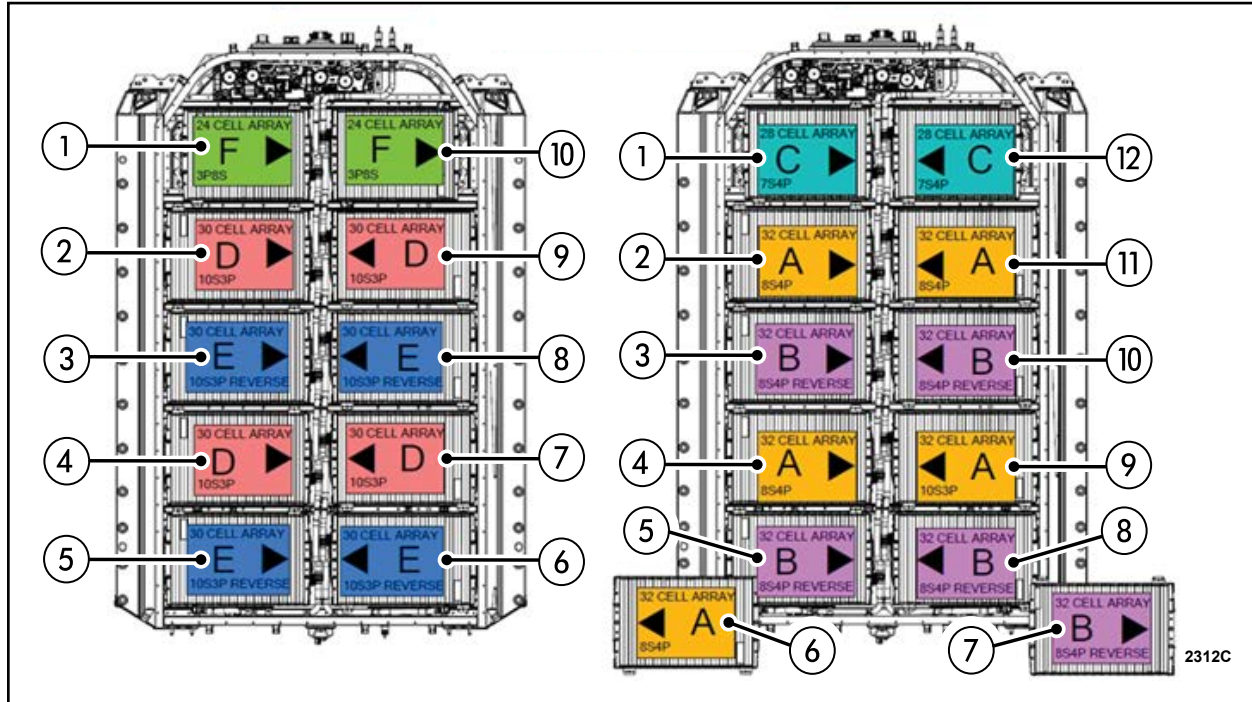

FIGURE 4
The vehicles included in this Field Service Action (FSA) have been identified as receiving a High Voltage Battery Module (HVBM) replacement using a service kit that included an incorrect Thermal Interface Material (TIM) template. For all vehicles included in this FSA, the type of HVBM that requires replacement is known and is listed in the supplied VIN tables. For the majority of vehicles, the HVBM numeric location is also known, and will be listed. For some vehicles, the HVBM numeric location is unknown. In these cases, the supplied serial numbers that the vehicle was built with will be listed in the tables and will be used to determine what HVBM requires replacement by process of elimination. All the serial numbers listed in these tables are factory installed HVBMs and DO NOT require replacement. The HVBM locations shown in Figure 4, on Page 5, correlate to the HVBM pairs that are listed in the VIN tables. Use the VIN tables and Figure 4 to determine what HVBM needs to be replaced.
NOTE: The HVBM's are replaced in pairs, so the HVBM's are listed as pairs in the VIN table that correlate to their locations in the HV battery shown in Figure 4.
NOTE: Figure 4 shows the HVBM configuration with lettered values that correlate directly to the HVBM's in the VIN tables. If the table lists FF, it is referencing the pair of HVBM's labeled F in Figure 4.
VINs in this table have the type of HVBM pair that is required and the numeric locations listed. Reference figure 4 to verify the location and type of HVBM that requires replacement.
- Referencing Figure 4, locate the serial numbers on the installed HVBMs in the HV battery and compare them with the serial numbers listed in the VIN Table.
- Referencing Figures 4 and 5, locate the Julian dates on the installed HVBM and compare them with the other HVBM Julian dates to verify what pair is the outlier. If the table states UNKNOWN, then all the HVBM Julian dates will need to be inspected to find the outlier.